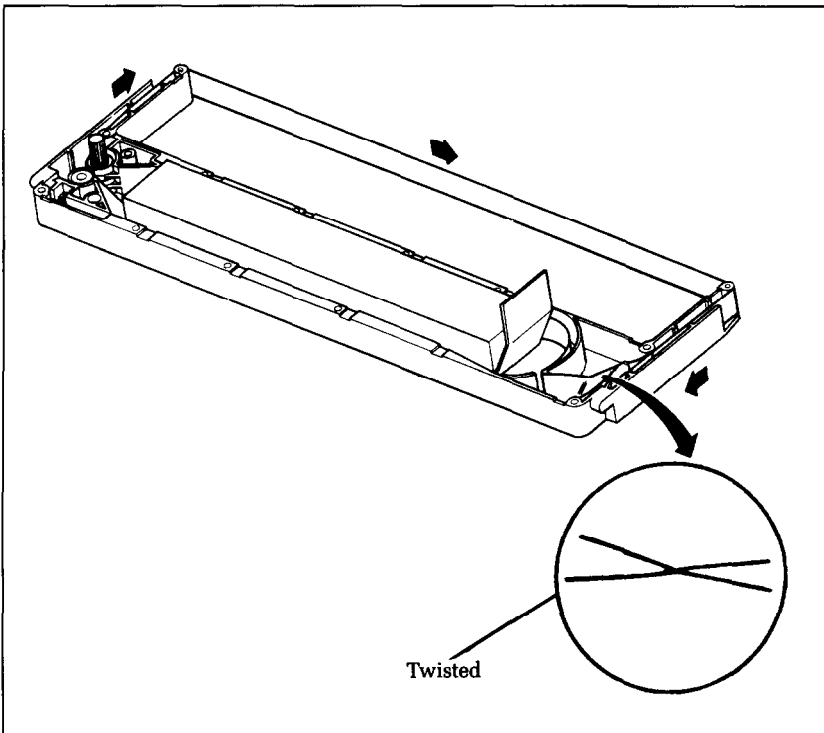

Figure 14-3. Make sure that the ribbon is not twisted when you thread it through its path.
7. Pull out the ink ribbon and set it according to the directions shown by the arrow in Figure 14-3. It's easy for the ribbon to get twisted somewhere along its pathway. Don't let it happen!